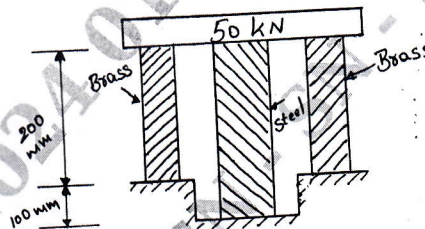

Fig.Q.2(b)
- 2 a. Derive the volumetric strain of a cylinder bar subjected to an axial load (P). (10 Marks)
- b. A steel rod of cross sectional area 1600mm^2 and two brass rods each of cross sectional area of 1000mm^2 together support a load of 50kN as shown in Fig.Q.2(b). Find the stresses in the rod. E for steel = $2 \times 10^5 \text{ N/mm}^2$, E for brass = $1 \times 10^5 \text{ N/mm}^2$.